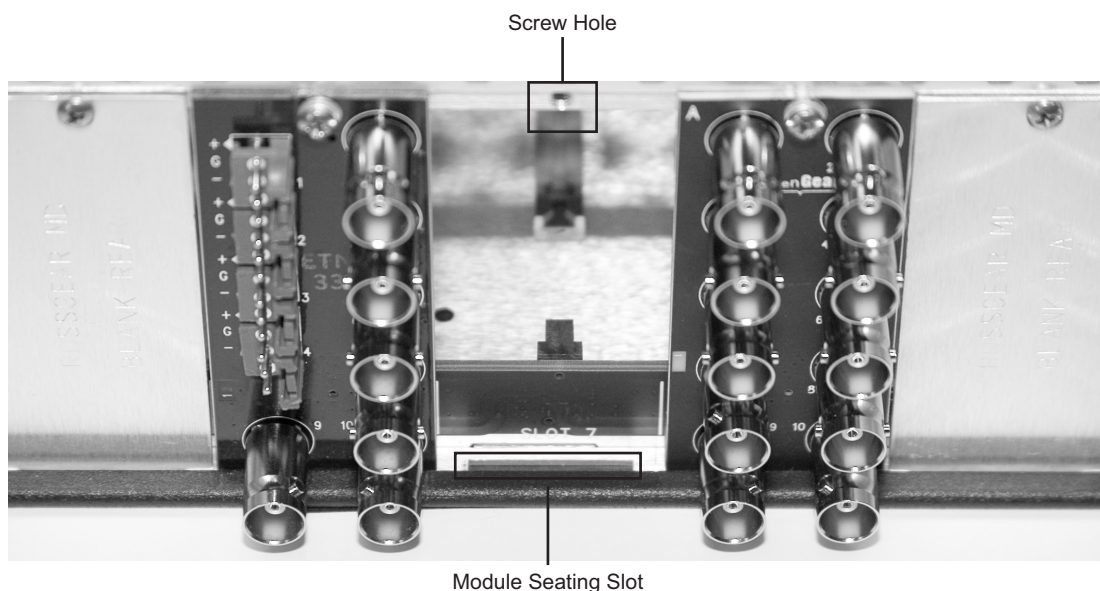

Figure 2.1 Rear Module Installation in a DFR-8310 Series Frame (ADC-8732B not shown)
3. Install the bottom of the Rear Module in the **Module Seating Slot** at the base of the frame’s back plane. **Figure 2.1**